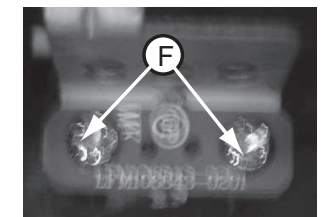

Figure 6
- 1) Loosen two screws "F" to remove Heat Sink Board as shown in figure 6